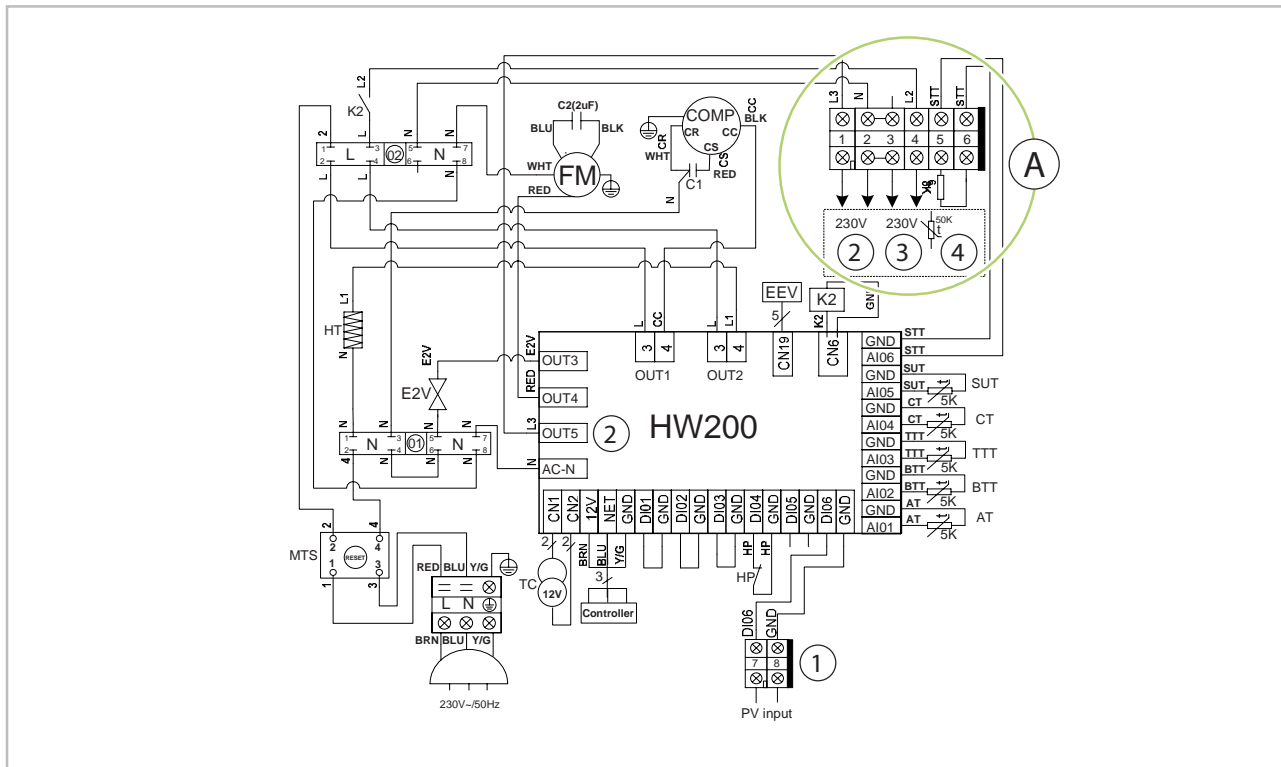

Fig. 40: Electrical drawings for domestic hot water heat pump with solar connection
- To operate the heat pump in conjunction with max. 7.5 m2 solar collector surface, once the hydraulic connection is established, it is also necessary to connect the collector probe supplied as standard. To do so, use the appropriate measuring point on your collector surface and connect the probe to the connection (Fig. 40), terminal 4. The solar collector pump is installed on terminal 2.
To operate the REMKO RBW domestic hot water heat pump in conjunction with a photovoltaic system, you have the option to use the potential-free contact (Fig. 40), terminal 1.